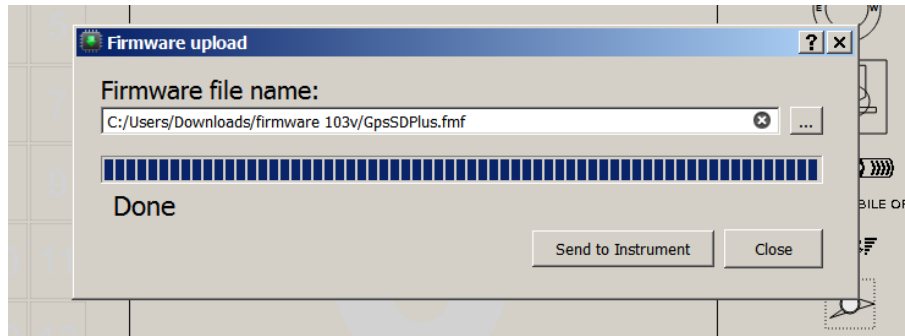

Figure 8.2: Firmware Update Done
6. When the process is finish the application shows a message saying *complete* (see Figure 8.2). Disconnect the USB cable and the NAV SD will start to work.